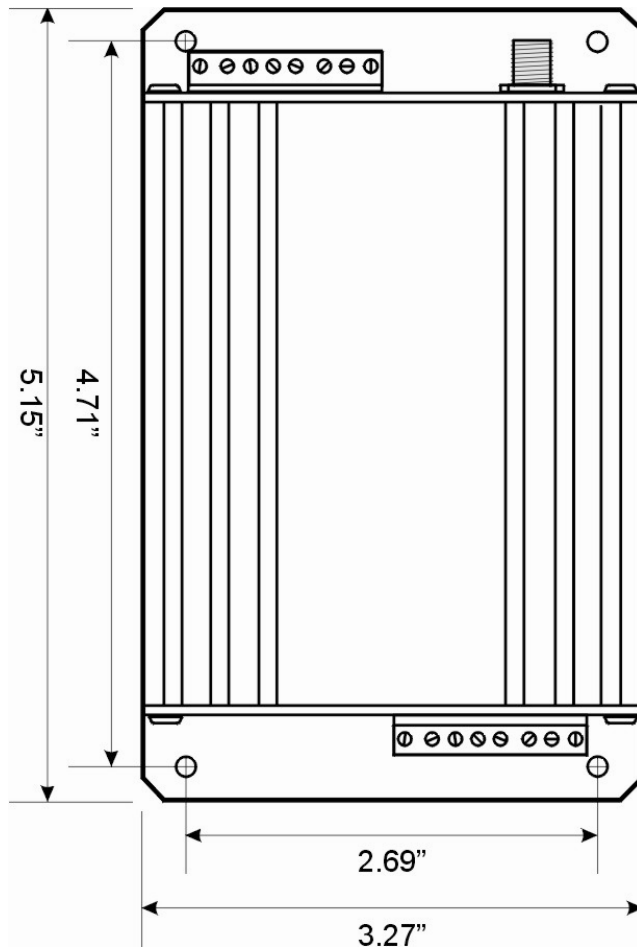

Fig. 5.1: DataHub Lite Dimensions Overhead View
- 5.3.2 Identify a suitable location inside the NEMA 4X enclosure that accommodates the DataHub Lite size and allows access to connectors for easy installation and service. See Fig. 5.1 & 5.2 for overall dimensions of the DataHub Lite.